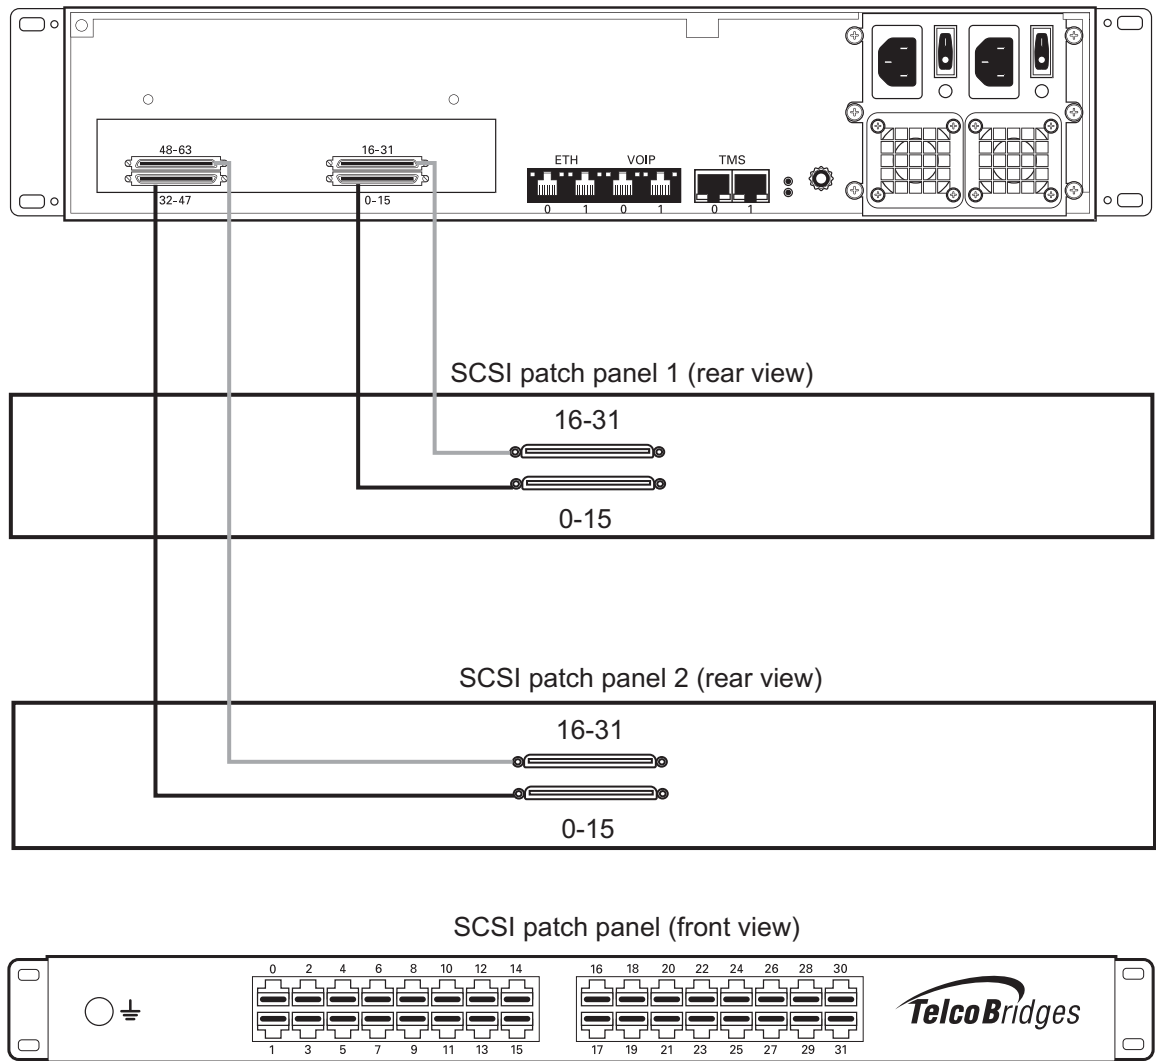

Figure 4.3 TMG7800-TE with SCSI connectors
1. Start with SCSI ports 0-15 located at the bottom right as shown in figure 4.3 on page 32. Connect one SCSI cable between this port and SCSI patch panel number 1, ports 0-15. Connect SCSI ports 16-31 to patch panel number 1, ports 16-31.